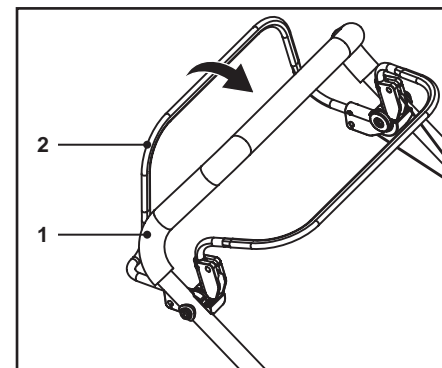

Fig. 15
1. Push the self-propelling lever (2) forward and hold it against the upper handle bar (1) to engage the rear roller (31) (Fig. 15).
2. Release the self-propelling lever (2) to disengage the rear roller (31).